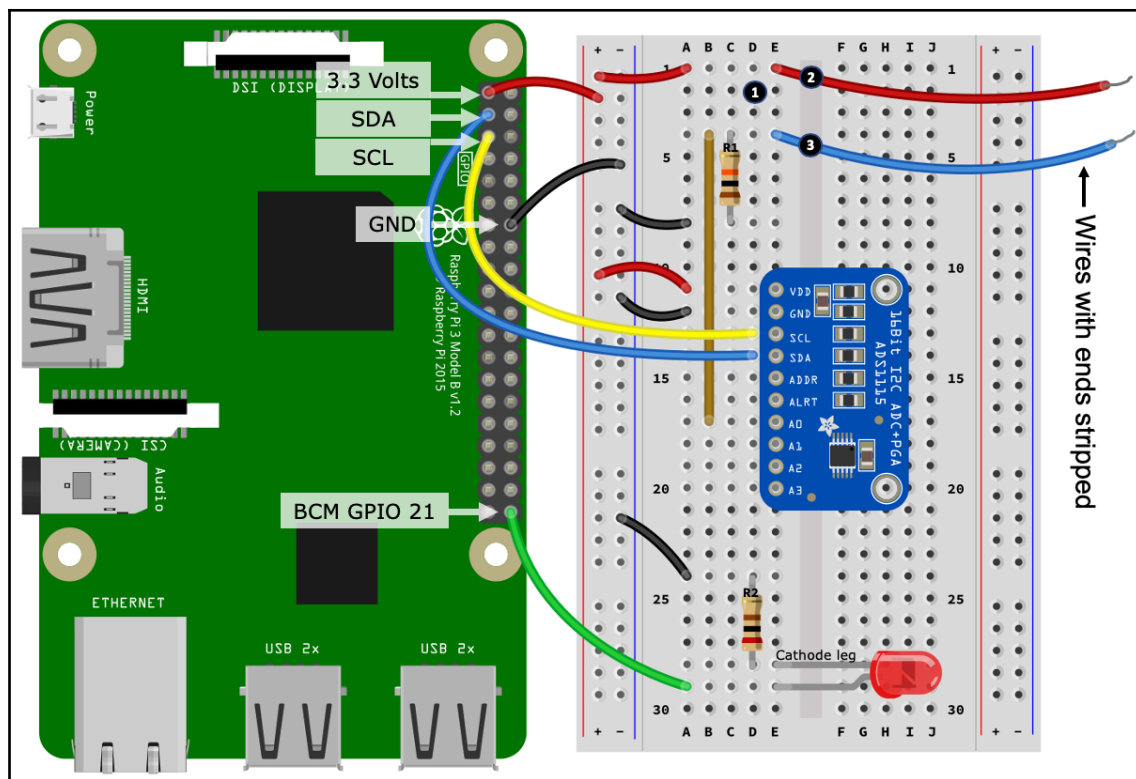
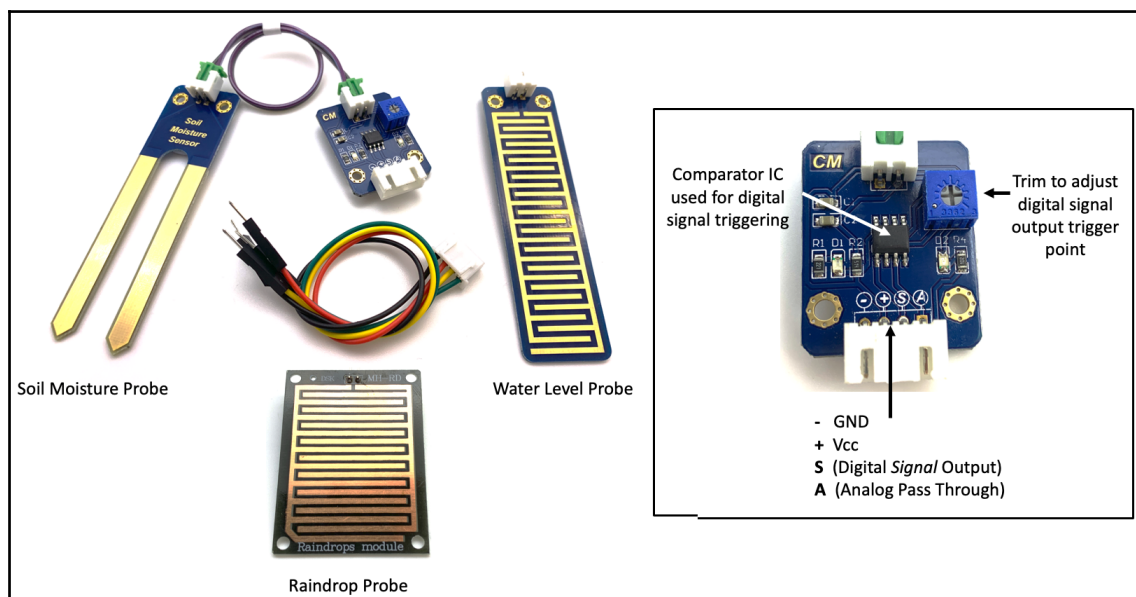

Figure 9.8 – Moisture detection circuit
Figure 9.9 – Moisture detection module and probes
For this exercise, you can create a set of probes using two pieces of wire (with the ends stripped), and attach them in place of the LDR, as shown in *Figure 9.8*. This is the same circuit we built in the previous section and showed in *Figure 9.7*, only this time, we have replaced the LDR with two wires. Let's make this slight change now:
Here are the steps to follow, which match the numbered black circles in *Figure 9.8*:
The three probes pictured each have two terminals and are simply an exposed copper trace on a circuit board, analogous to the exposed wires we saw in our circuit in *Figure 9.8*. A key difference is that these probes expose a larger surface area and are therefore more sensitive. Furthermore, they are also likely to be less prone to corrosion (at least in the short-to-medium term) than two stripped wires.
You can connect these probes directly to the exposed wires in our circuit shown in *Figure 9.8* to expand and enhance the detection capabilities of the circuit!
Let's discuss the electronic module (zoomed in and labeled in *Figure 9.9* on the right-hand side).
The *analog output* is a pass-through to the probe. You connect it directly into a voltage divider circuit and measure a varying voltage with an ADC such as the ADS1115 – the exact scenario we created in *Figure 9.8*. If you use the analog pass-through, you are bypassing all the other circuitry on the module (hence why you can just connect the probes directly into our example circuit).
The *digital output* is what uses the module circuitry. A typical module circuit includes, at a minimum, an integrated circuit known as a voltage comparator, a fixed resistor, and a variable resistor, which is a trigger-point trim adjustment. The fixed resistor together with the probe creates a voltage divider. The voltage comparator is responsible for monitoring the voltage across the voltage divider and triggering the digital output (for example, transition from **LOW** to **HIGH**) at a point determined by trim adjustment. An example of a trim adjustment variable resistor can be seen in *Figure 9.9*.
So, to conclude, what's better – using an ADS1115 and voltage divider type circuit such as that shown in *Figure 9.8*, or using a module such as that pictured in *Figure 9.9*? There is no one best answer; however, the following points will help you make your own decision:
- Using a circuit such as that in *Figure 9.8* is an analog approach. The raw voltage detected by the sensor is passed directly to your Raspberry Pi. One simple advantage of this approach is that you have full control over a *trigger* point in code. You could, as an example, remotely adjust the trigger point from a web page. The downside of this approach is that you need a more complex circuit that involves an ADS1115 and a voltage divider.
- Using a module such as that pictured in *Figure 9.9* as a digital approach promotes a simpler interfacing circuit to your Raspberry Pi in that you can connect the digital output terminal directly to a GPIO pin (as long as the digital output of the module 3.3-volts). The caveat is that you must have physical access to the module and the adjustment trim to change the trigger point.